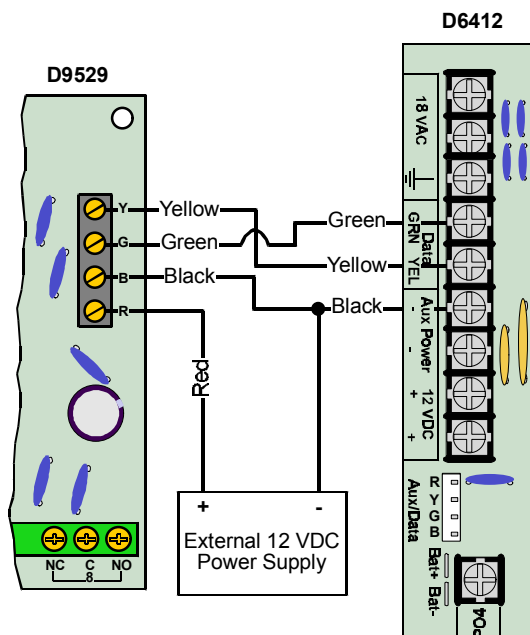

Figure 27: Wiring for External Power Supply
*If the D9529 is to be installed far from the control panel, then the control panel cannot be used to power the D9529. An external power supply must be used. See Figure 27 for external power supply connections.*
If you need to power the D9529 from an external power source, connect it to the power source and the panel as shown in Figure 27. See Section 4.3, *External Power Supply*, for external power supply restrictions.
Table 14 shows the correct address setting for each Command Center address. See Figure 27 for proper Command Center DIP switch orientation.